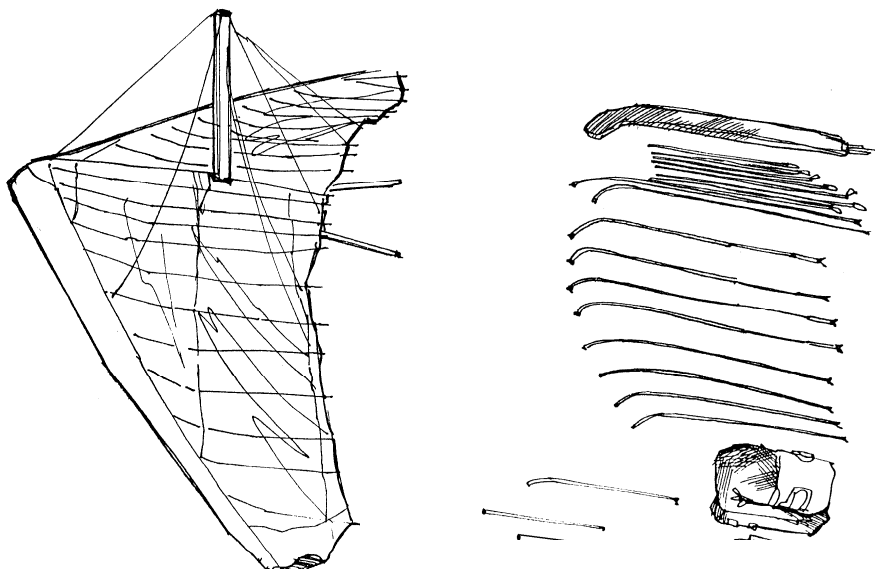

Fig.12
2.2.8. Remove the battens from the bag and lay them on the ground for each wing separately in decreasing order of length. Check them for symmetry. Correct any that are asymmetric using the template (Fig.12). Insert top surface battens from longer to shorter except two longest battens.